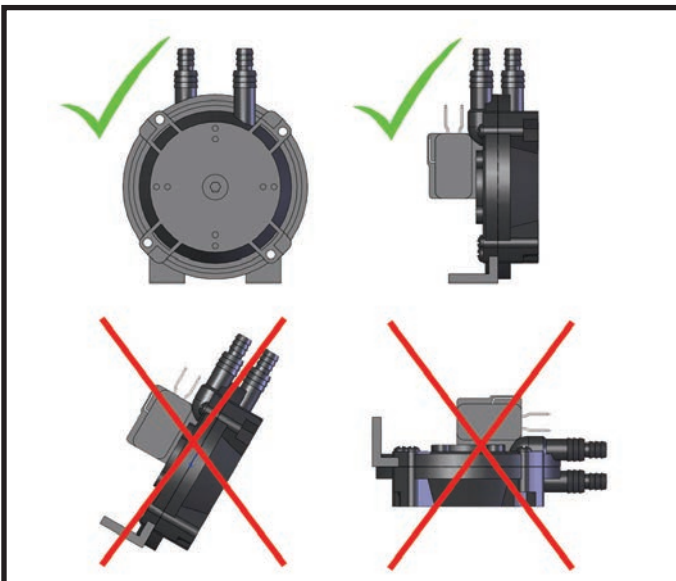

Figure 10: Proper orientation of pressure switch.
**WARNING:** This switch must be installed in a vertical position and will not function if installed otherwise (Figure 10).